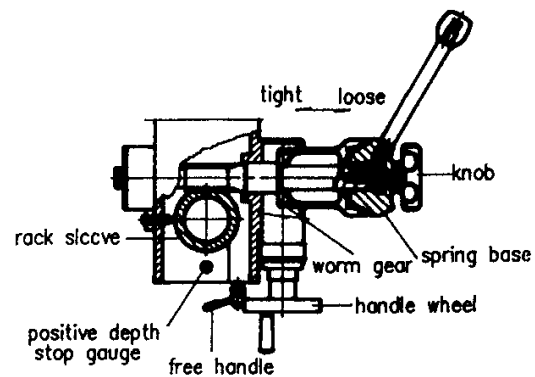

Fig 2
(4) Preparing for Drilling (see fig. 2)(Except addition power feed system).
(5) Preparing for Milling (see fig. 2)(Except addition power feed system).